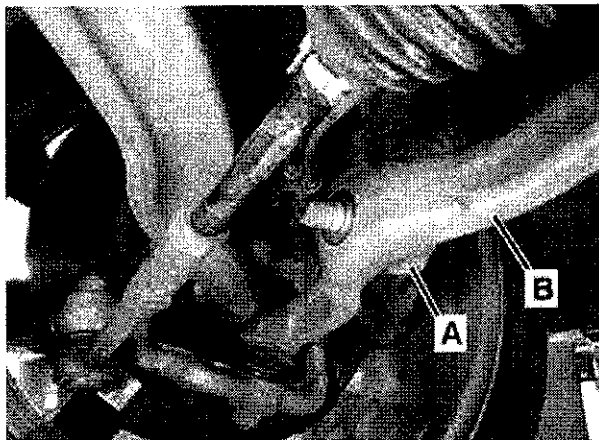

Figure 2
3. Disconnect strut ball joint (A, Figure 2) from lower control arm (B, Figure 2) refer to WIS: AR32.25-P-1017SY steps 5 - 6 only.